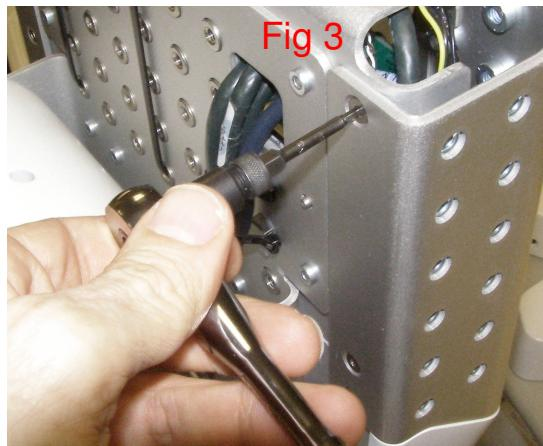

Fig 3
1. Insert the retaining lips in the front of the Hatch under the edge of the Head Bonnet. (Fig 3)
5. For the top 2 screws it may be easier to use the 1/4 drive wrench with the hex 1/4 adapter and the 2.5mm bit. (Fig 3)